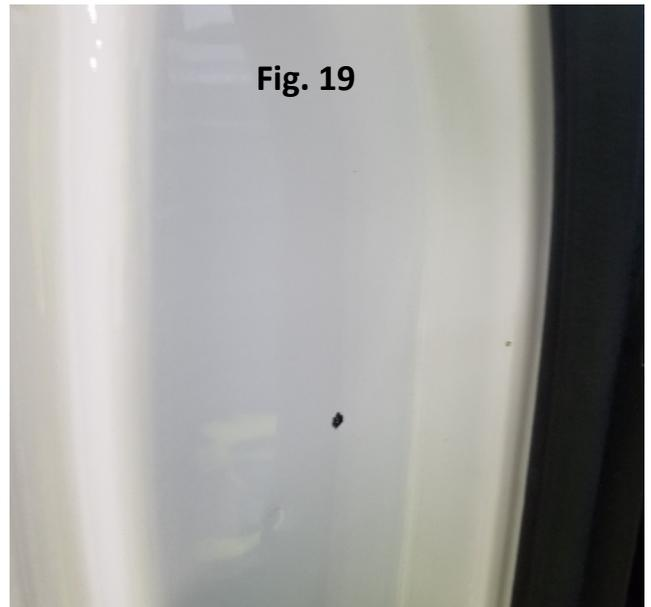

Fig. 19
24. This is so we can transfer the exact hole location on the left side door. Close the doors and using the factory remote press the lock button. This will transfer the mark where you will drill the hole for the deadbolt. Fig. 19